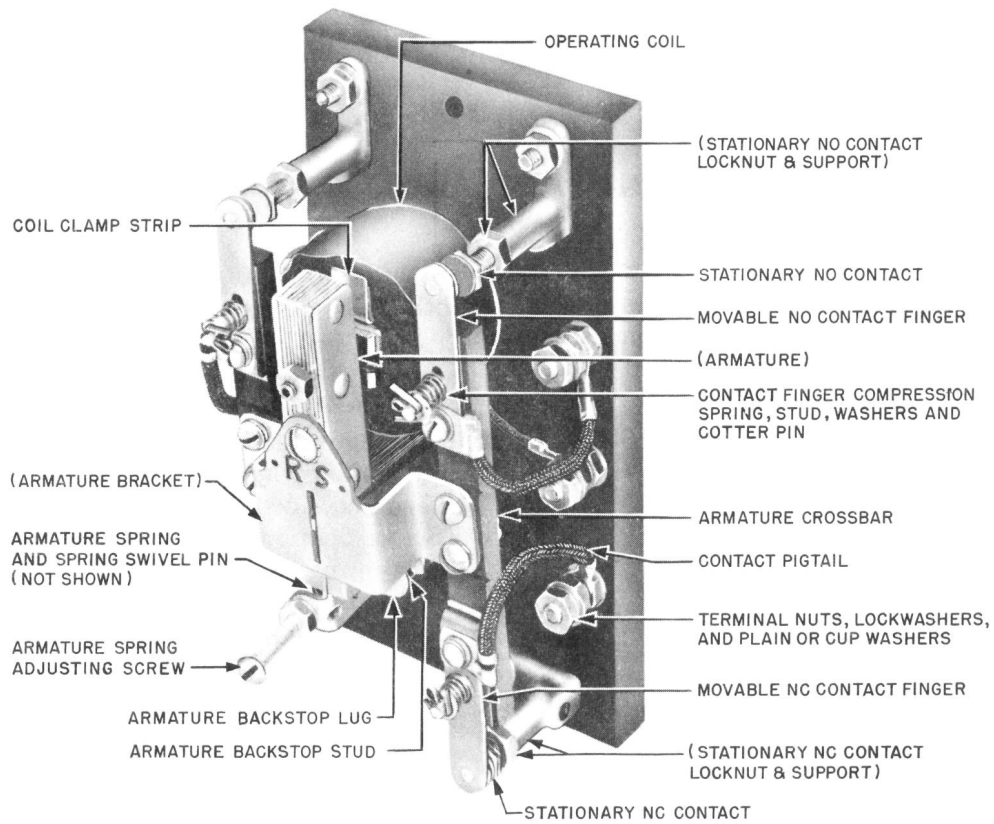
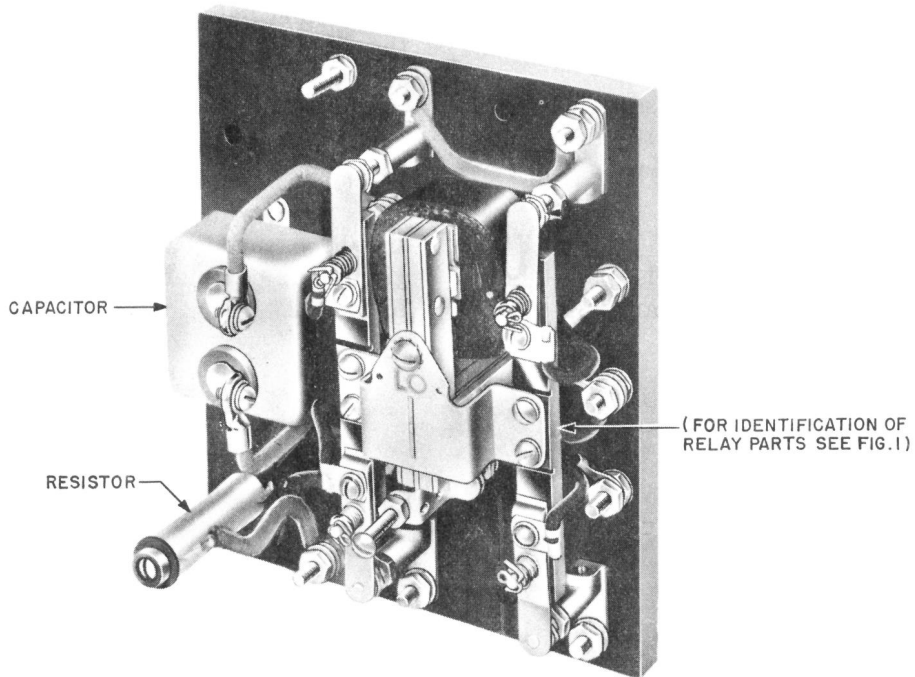

Fig. 1 – KS-15517 Relay (L2 shown)
Fig. 2 – KS-15726 Relay (L3 shown)
2. To revise Fig. 1 and to add Fig. 2.